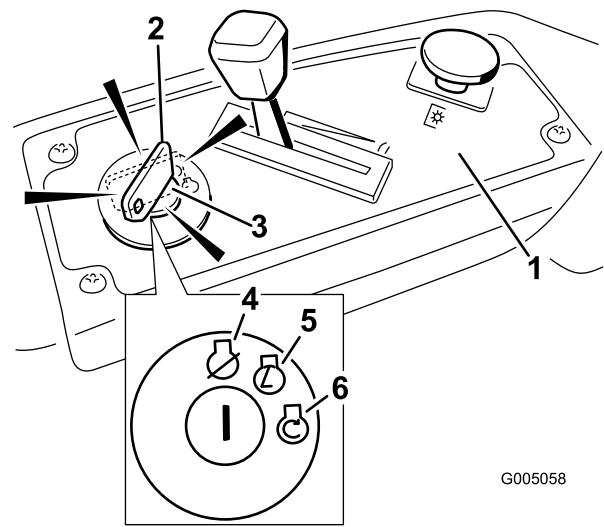

Figure 13
- Turn the ignition key to Start to energize the starter. When the engine starts, release the key (Figure 13).
2. Move the throttle lever to between Fast and half throttle (Figure 13).